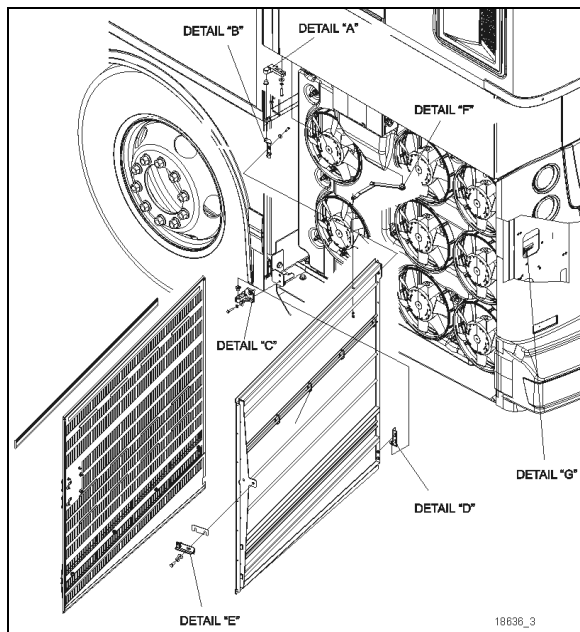

FIGURE 140: RADIATOR DOOR
To adjust the latch mechanism (details "E" and "G", Figure 140) and the striker pin:
- Open the door and slightly loosen the latch tab (detail "E", Figure 140).